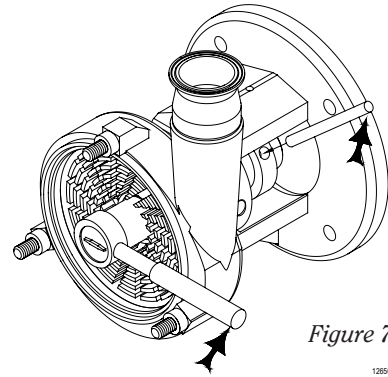

Figure 7
- a) Loosen the cover nuts (24) with the soft-faced hammer and remove.
- b) Remove the pump cover (23) and the cover gasket (19).
- c) Loosen the acorn nuts (41) on the front of the cover and remove.
- d) Remove the stator (39) and two o-rings (44 & 45). Discard the o-rings.
- f) Loosen and remove the guard screw (34). Next remove the shaft guard (35).
- g) Place the 3/8" diameter rod in the pump shaft hole. Allow the rod to rest against the pump flange support (2) to prevent the shaft from rotating while loosening the rotor nut (22) with the 15/16" socket wrench (*Figure 7*). Remove the rotor nut and the rotor nut gasket (21).
- h) Remove the rotor (38) from the pump shaft (6) by grasping a rotor blade in each hand and pulling the rotor toward you.